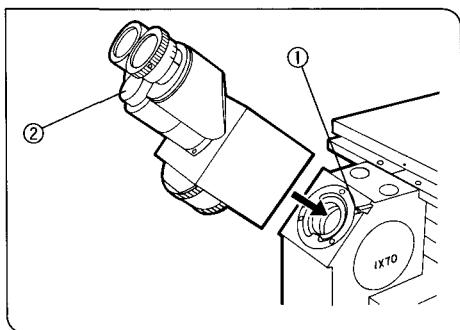
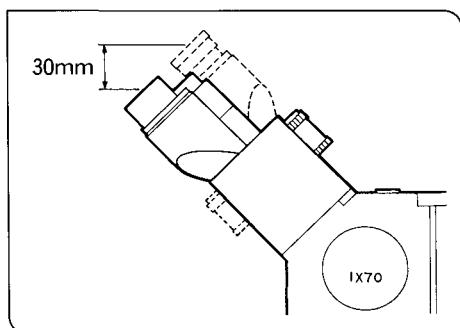

Fig. 37
Fig. 38
(Figs. 37, 38)
- Using the Allen screwdriver, loosen the observation tube clamping screw ① on the observation tube mount. (Fig. 37)
- Insert the circular dovetail mount of the observation tube into the observation tube mount, placing the observation tube so that the inter-pupillary distance scale numbers ② are seen right side up. Clamp the observation tube by tightening the clamping screw ①.
- ◎ Normally, the distance from the surface of the desk to the eyepoint is approximately 430 mm. If it is desirable to lower the eyepoint position, the observation tube may be detached, turned 180° and then mounted on the observation tube mount again. Eyepoint height will be lowered approximately 30 mm by this procedure. (Fig. 38)